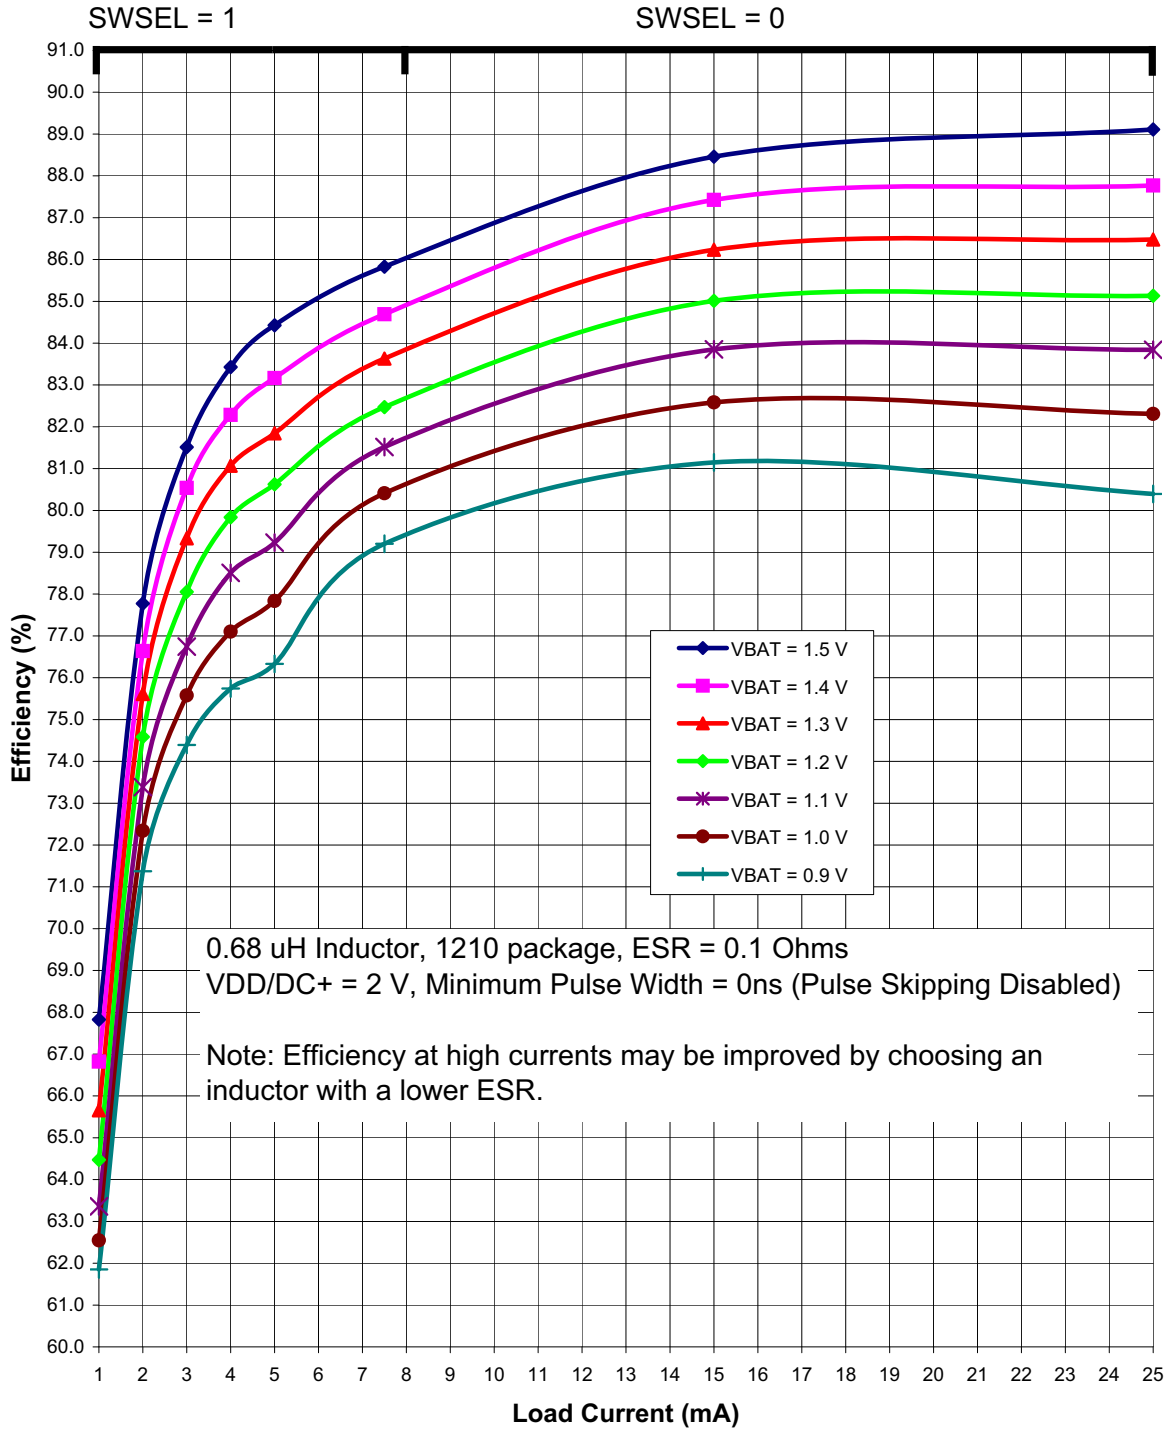
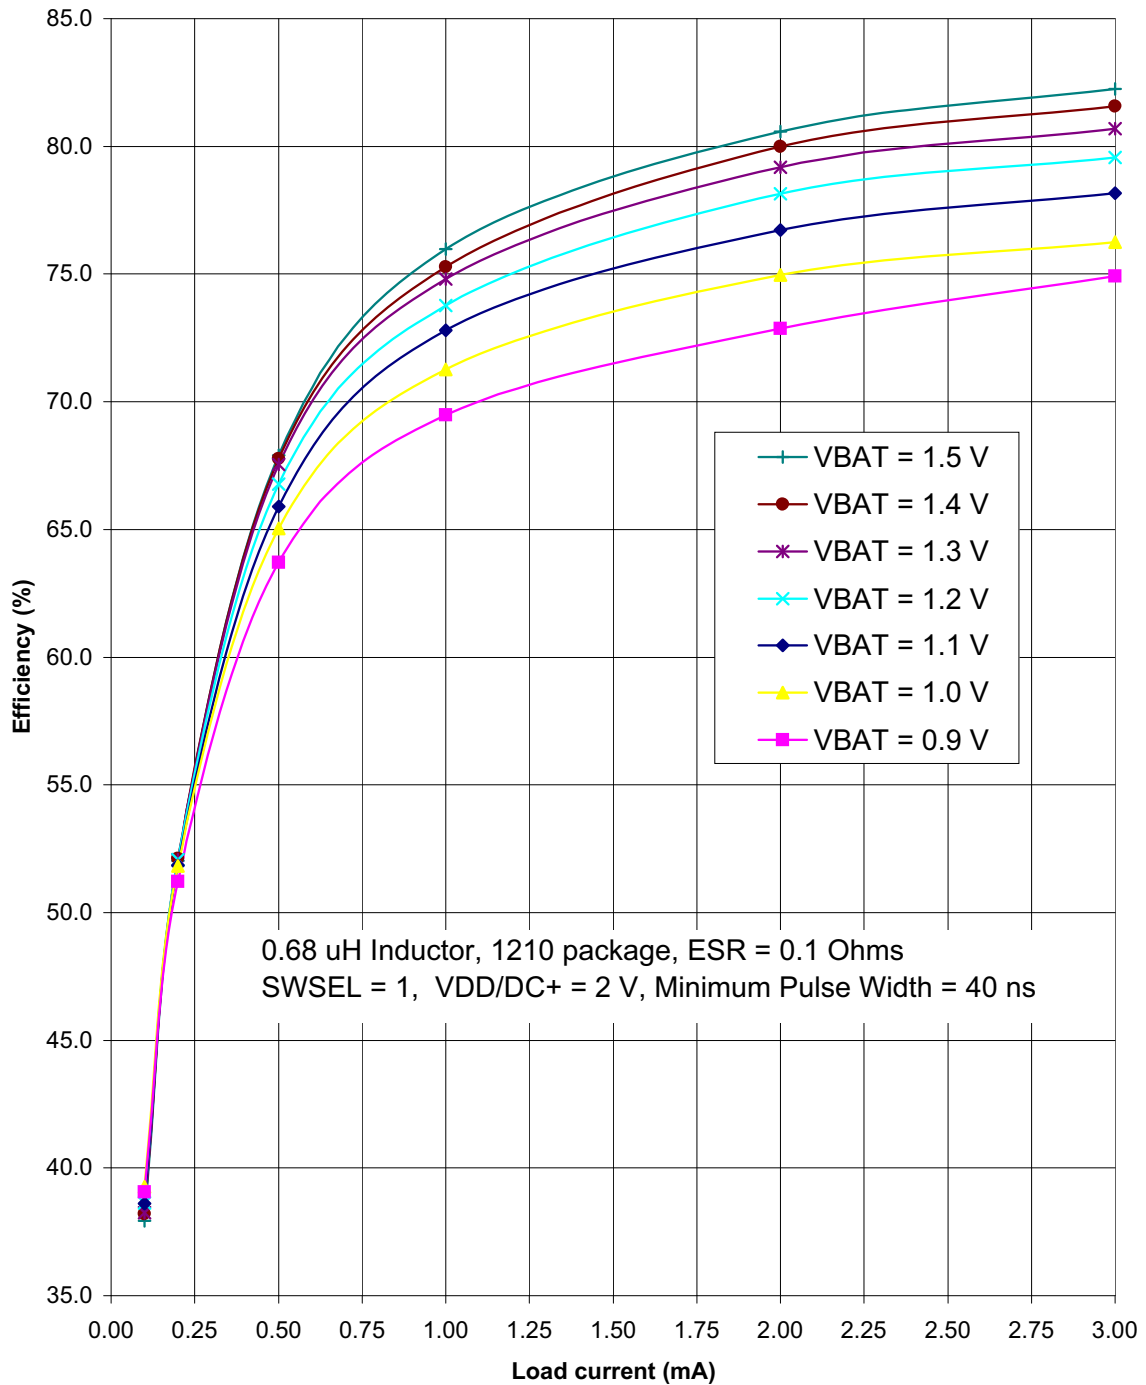

Figure 4.3. Typical DC-DC Converter Efficiency (High Current, VDD/DC+ = 2 V)
Figure 4.5. Typical DC-DC Converter Efficiency (Low Current, VDD/DC+ = 2 V)
<ol style="list-style-type: none"> <li>1. Based on device characterization data; Not production tested.</li> <li>2. SYSCLK must be at least 32 kHz to enable debugging.</li> <li>3. Digital Supply Current depends upon the particular code being executed. The values in this table are obtained with the CPU executing an "sjmp \$" loop, which is the compiled form of a while(1) loop in C. One iteration requires 3 CPU clock cycles, and the Flash memory is read on each cycle. The supply current will vary slightly based on the physical location of the sjmp instruction and the number of Flash address lines that toggle as a result. In the worst case, current can increase by up to 30% if the sjmp loop straddles a 64-byte Flash address boundary (e.g., 0x007F to 0x0080). Real-world code with larger loops and longer linear sequences will have few transitions across the 64-byte address boundaries.</li> <li>4. Includes oscillator and regulator supply current.</li> <li>5. IDD can be estimated for frequencies <math>\leq 14</math> MHz by simply multiplying the frequency of interest by the frequency sensitivity number for that range, then adding an offset of 90 <math>\mu</math>A. When using these numbers to estimate <math>I_{DD}</math> for <math>&gt;14</math> MHz, the estimate should be the current at 25 MHz minus the difference in current indicated by the frequency sensitivity number. For example: <math>V_{DD} = 3.0</math> V; <math>F = 20</math> MHz, <math>I_{DD} = 4</math> mA – <math>(25 \text{ MHz} - 20 \text{ MHz}) \times 0.102 \text{ mA/MHz} = 3.5</math> mA assuming the same oscillator setting.</li> <li>6. The supply current specifications in Table 4.2 are for two cell mode. The VBAT current in one-cell mode can be estimated using the following equation:           <math display="block">\text{VBAT Current (one-cell mode)} = \frac{\text{Supply Voltage} \times \text{Supply Current (two-cell mode)}}{\text{DC-DC Converter Efficiency} \times \text{VBAT Voltage}}</math> <p>The VBAT Voltage is the voltage at the VBAT pin, typically 0.9 to 1.8 V.            The Supply Current (two-cell mode) is the data sheet specification for supply current.            The Supply Voltage is the voltage at the VDD/DC+ pin, typically 1.8 to 3.3 V (default = 1.9 V).            The DC-DC Converter Efficiency can be estimated using Figure 4.3–Figure 4.5.</p> </li> <li>7. Idle IDD can be estimated by taking the current at 25 MHz minus the difference in current indicated by the frequency sensitivity number. For example: <math>V_{DD} = 3.0</math> V; <math>F = 5</math> MHz, Idle <math>I_{DD} = 2.1</math> mA – <math>(25 \text{ MHz} - 5 \text{ MHz}) \times 0.079 \text{ mA/MHz} = 0.52</math> mA.</li> <li>8. Internal LFO only available on 'F912 and 'F902 devices.</li> <li>9. Ability to disable VBAT supply monitor only available on 'F912 and 'F902 devices.</li> </ol>